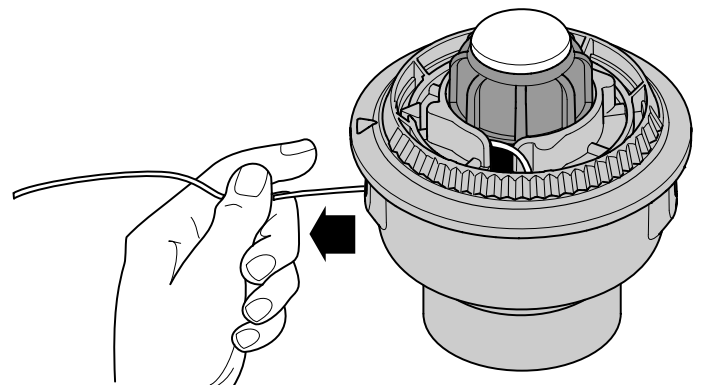

Fig. 20
6. Pull the line from the outer spool until the line is tight against the inner reel (Fig. 20).